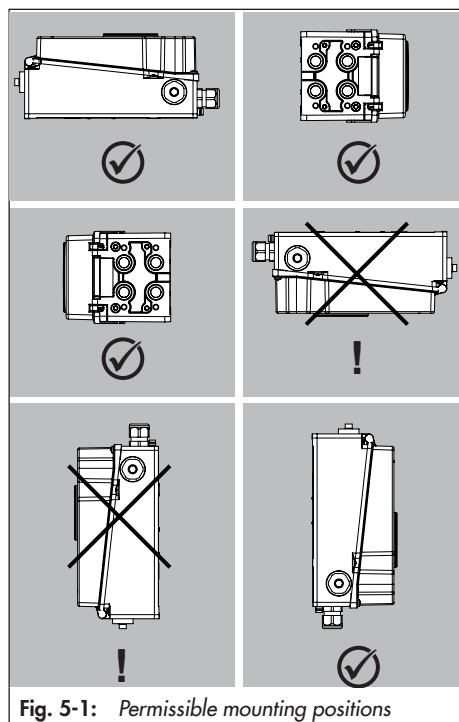

Fig. 5-1: Permissible mounting positions
- See Fig. 5-1 for permissible mounting position.